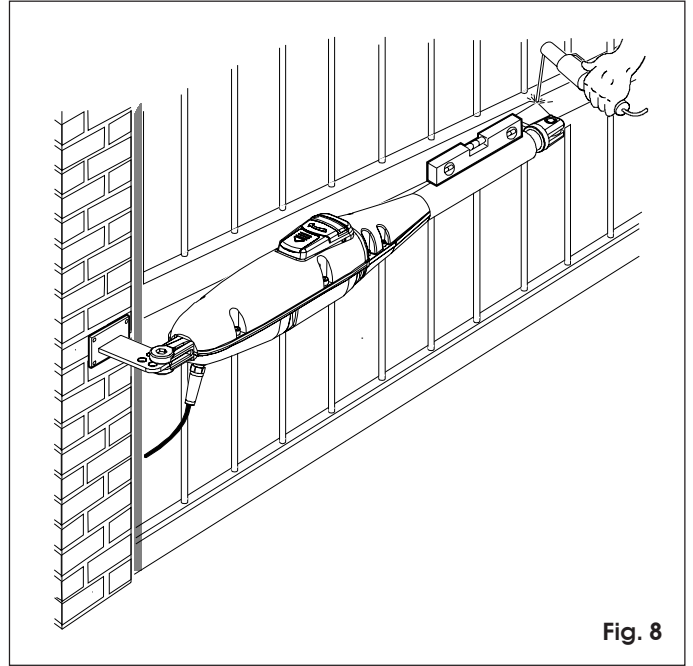

Fig. 8
- 6) Close the gate leaf and, holding the operator in a perfect horizontal position, locate the front bracket securing point on the leaf (Fig. 8).
9) Weld the front bracket on the leaf (Fig. 8).